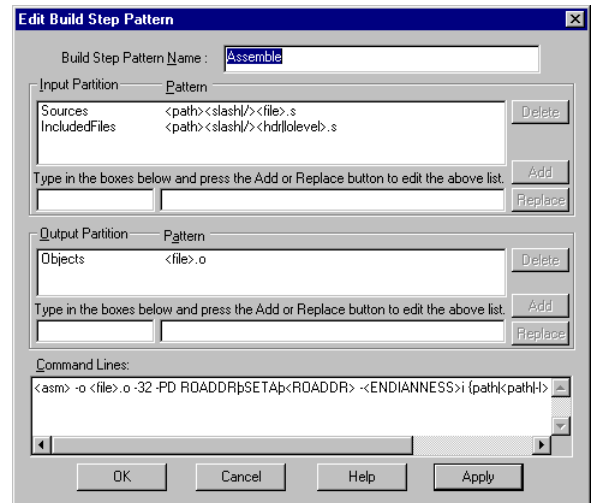

Figure 13-8 Edit Build Step Pattern
3. Select **Assemble** from the list of build step patterns and click on the **Edit...** button. The Edit Build Step Pattern dialog is displayed (Figure 13-8).